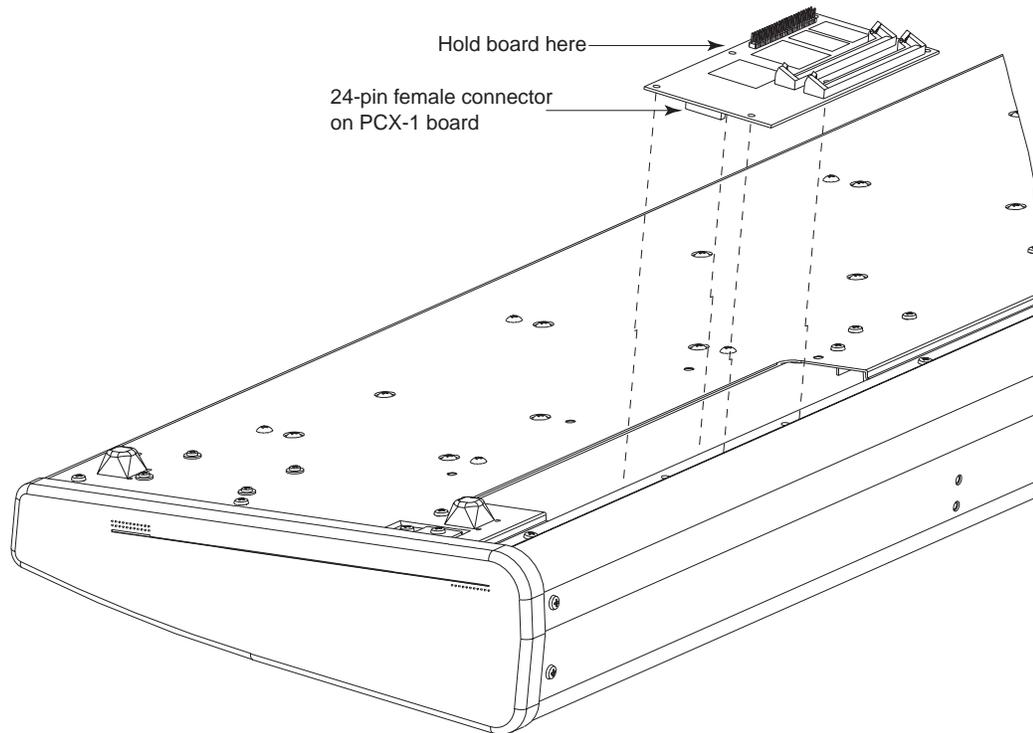

Figure 3 **Inserting the PCX-1 board**
3. Grasp the board as shown in Figure 3 (page 11). The connector (J805) should be at the left side of the board, and facing away from you. Holding the board vertically, insert it through the access opening, then rotate it until it's horizontal.